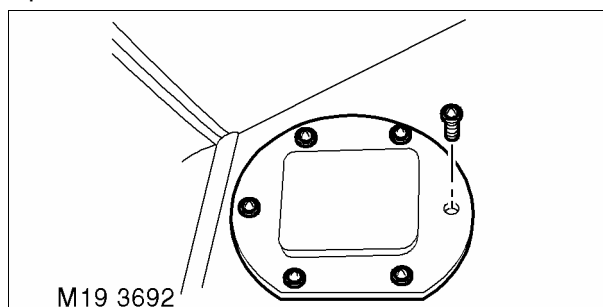

Fig. 2
- 8 Remove fuel pump access panel and discard gasket. Fig. 2.